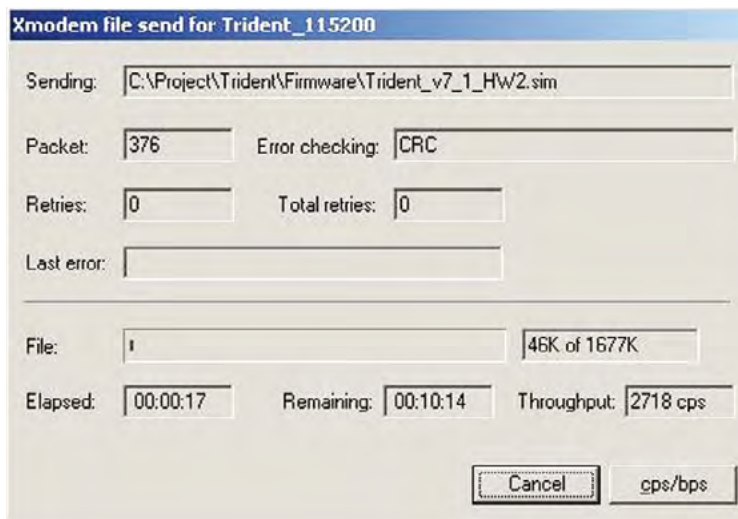
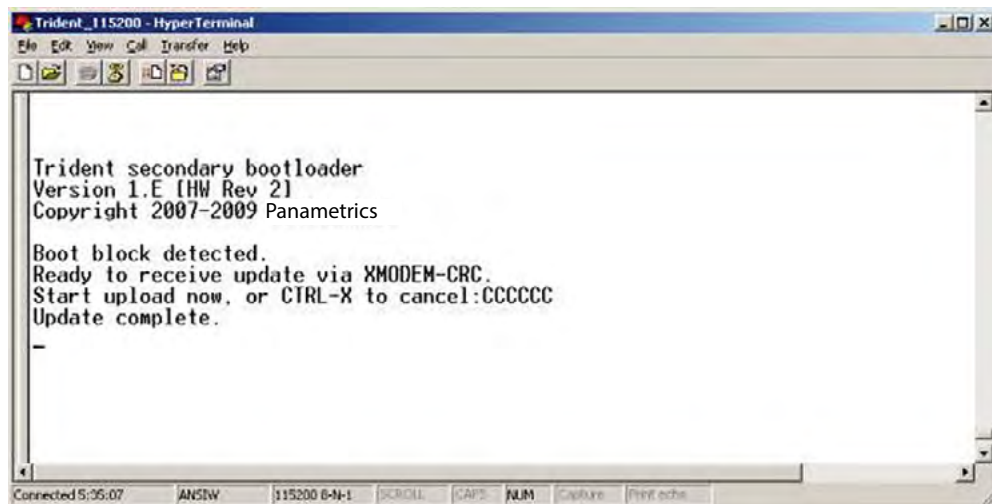

Figure 50: Sentinel LCT4 transfer status window
Figure 51: PC transfer status window
4. In Hyperterminal, select Transfer, and then Send File. (The protocol should be Xmodem.) Use Browse to locate the file, which will have a .cod extension. Double click on this file and click the Send button. The screens on the Sentinel LCT4 (Figure 50 below) and on Hyperterminal (Figure 51 below) should both display the status of the transfer.